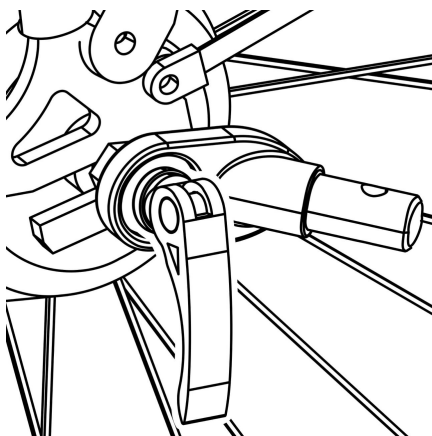

Figure 11
1. Quick-release Axle: Remove the quick-release from the left side of bike's rear axle. Install the hitch between the quick-release and frame. Tighten the quick-release following the bike manufacturer's manual. Hitch can remain on the bike when the trailer is removed (Figure 11).